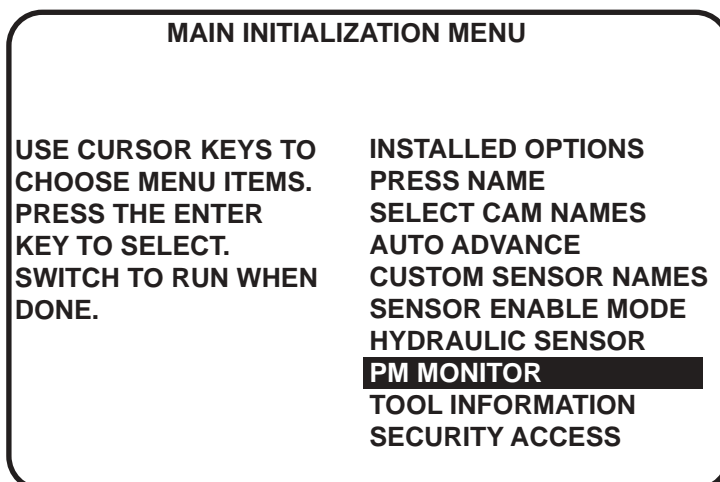

Figure A-1. "PM Monitor" in SmartPAC Hydraulic Initialization menu (the list of options may vary depending upon the features you have installed)
2. Select "PM Monitor" from the main Initialization menu (Figure A-1). A screen will appear asking for your password.
1. Select "PM Monitor" from the main Initialization menu (Figure A-1). A screen will appear asking for your password.